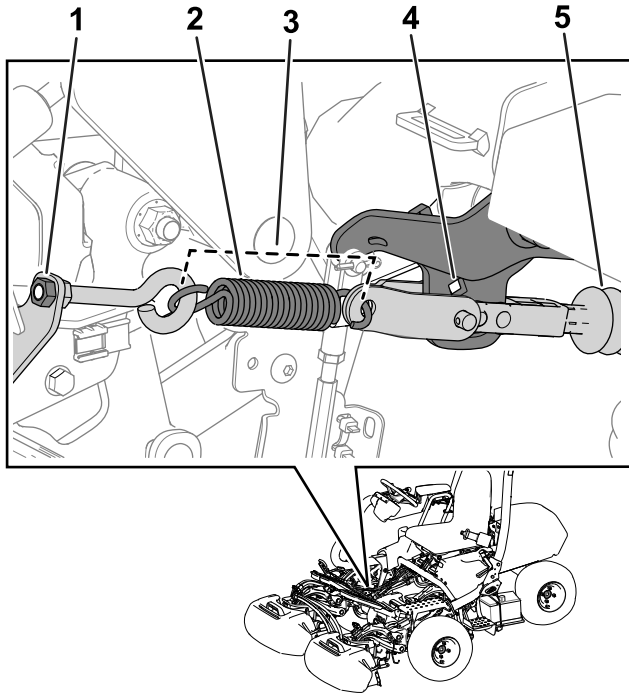

Figure 30
Note: Refer to Figure 30 for this procedure.
5. Release tension on the spring by loosening the nut that secures the eyebolt to the spring bracket (Figure 30).
3. Install the spring as shown in Figure 30.
4. Tighten the eyebolt nut so that the spring length is 11.4 cm (4.5 inches) when installed (Figure 30).